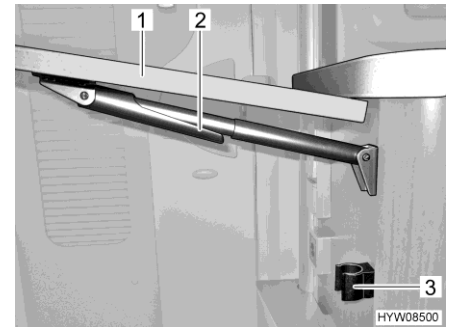

Fig. 94 Folding away the folding worktop
- Hold the folding worktop (Fig. 94,1) at the edges and lift gently. With your other hand, swing down the fixture (Fig. 94,2) on the telescopic holder.
- Fold down the table top until the telescopic holder clicks into position in the holder (Fig. 94,3).